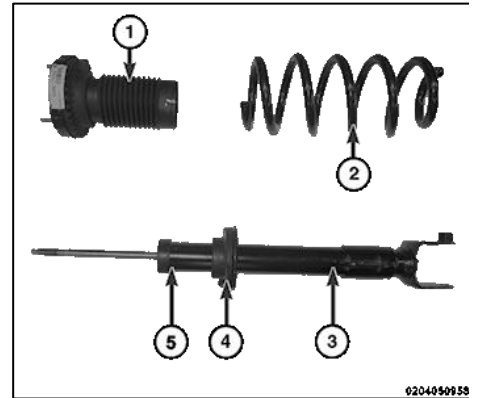

Figure 7
Place coil spring (2) <Figure 7> (part number tag end upward) in compressor lower hooks following manufacturer's instructions. To ease shock reassembly, rotate coil spring around until upper coil ends at straight outward position from compressor. Proper orientation of spring to upper mount (once installed) is necessary.
4. Install lower spring isolator (4) on shock body (3). <Figure 7>
6. Install shock through bottom of coil spring until lower spring isolator (on shock) contacts lower end of coil spring. Match step built into isolator (1) to lower coil end. Install clamp to hold shock and coil spring together. <Figure 7>